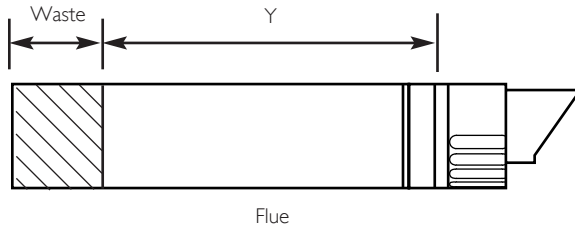

Fig. 37
5. Mark dimension 'Y' on the flue as shown (Fig. 37). Carefully cut the waste material from the flue, ensuring that the ducts are square and free from burrs.